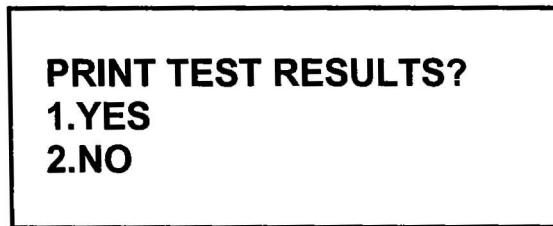

Figure 14-8. Print Transformer Test Results Menu
- c. Action Option:** Select key #1 to print test results (see Figure 14-8). Select key #2 to bypass print option.
- b. Origin:** This menu is displayed once after operator selects "YES" from the "Print Transformer Test Results Menu" (Figure 14-8).